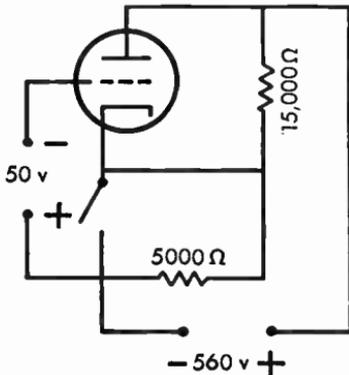

Fig. 7.01 Grid keying circuit.
7.01 The cutoff voltage of the tube used in the grid keying circuit of Figure 7.01 is -75 volts. Show that no current will flow when the key is in the up-position.